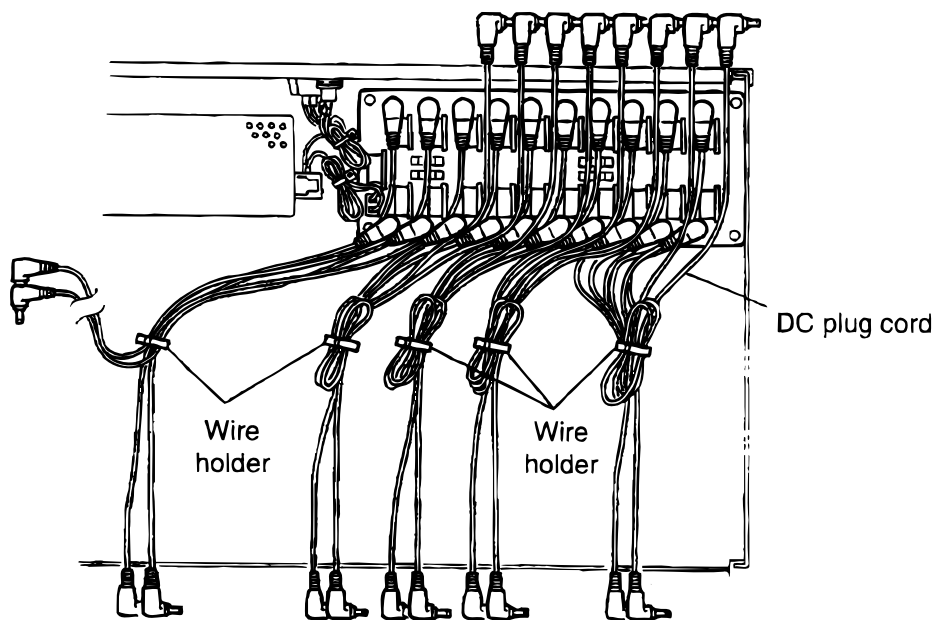

Fig. 10
4. Unplug the DC plug cord from the wire holders at the five positions (Fig.10)
■ Rewiring of the DC plug cords and installation of the charge cases (Figs.10 and 11)
1. To rewire the DC plug cords, refer to Fig.10.